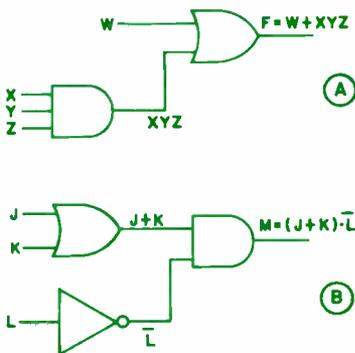

Fig. 5. Two examples of combined logic gates.
**Combining Logic Circuits.** Logic circuits can be readily combined to form a variety of more complex logic networks. Fig. 5 shows two examples. In Fig. 5A a 3-input AND gate feeds a 2-input OR gate, along with a single input signal. The output of the OR gate will be a binary 1 if input W is a binary 1 or if signals X and Y and Z are simultaneously binary 1.